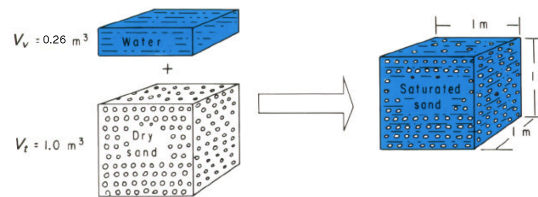

Figure 1: Cubic meter of saturated geologic material
1. Figure 1 depicts a cubic meter of material that when saturated contains 0.26 cubic meters of liquid.